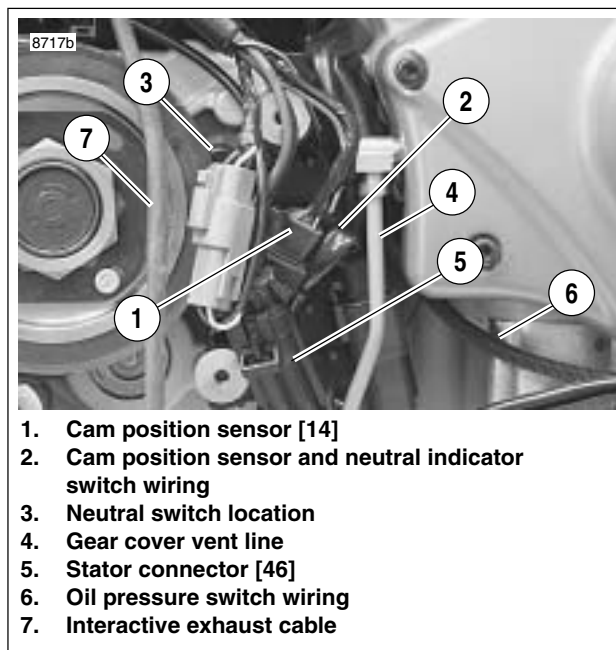

Figure 7-94. Cam Position Sensor Wiring
2. Connect stator connector (9).
3. See Figure 7-94. Connect cam position sensor [14] (1). Form a loop (2) as shown using wiring leading to cam position sensor.